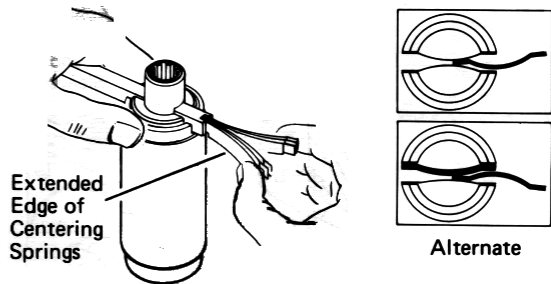

Figure 12
2 Align spring slots of spool and sleeve, then stand parts on bench. Insert spring installation tool (see tooling information, page 3) through spring slots of both parts. Position centering springs (2 sets of 3 each) on bench so that extended edge is down and center section is together. In this position, insert one end of entire spring set into spring installation tool, as shown in Fig. 12. If no tool is available, see NOTE below for alternate installation instructions.
C) Push 1 set of 2 centering springs between the 2 springs in the spool, see Fig. 12.